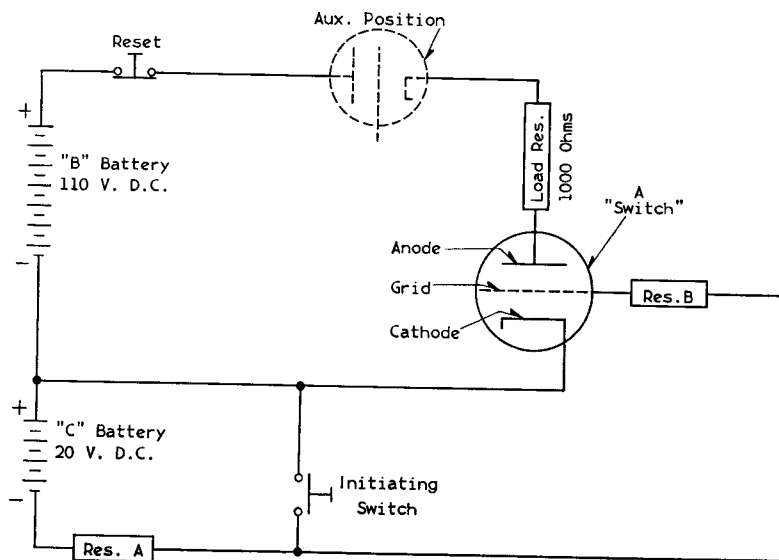
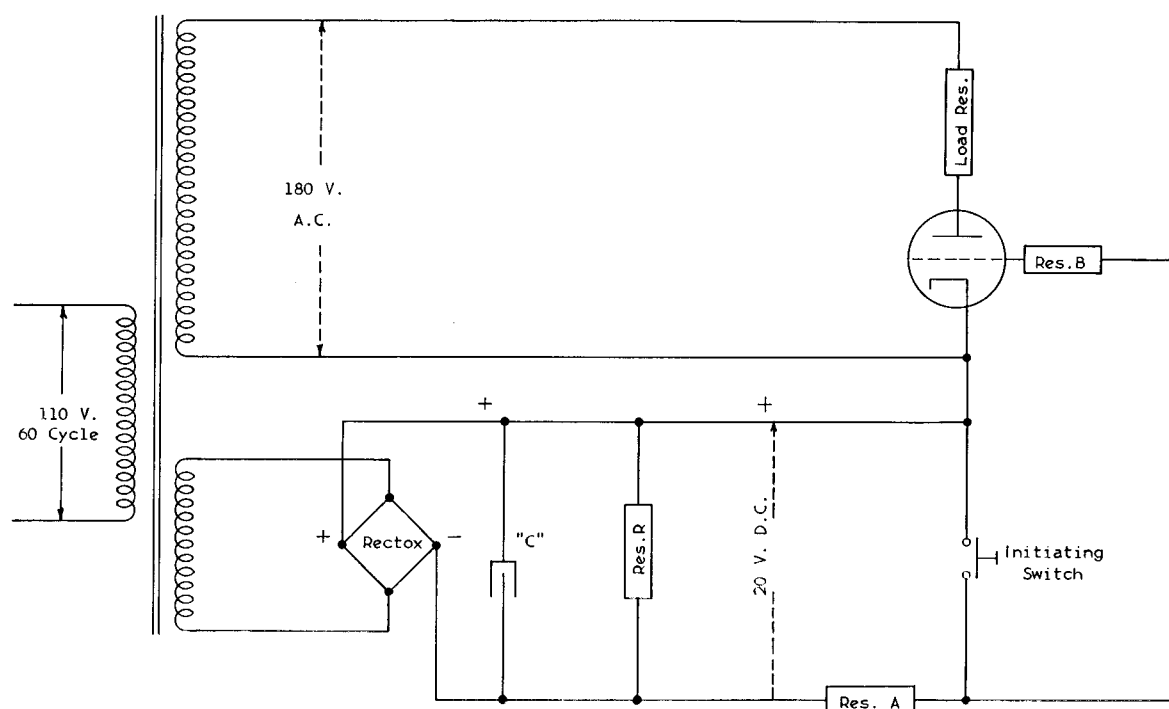
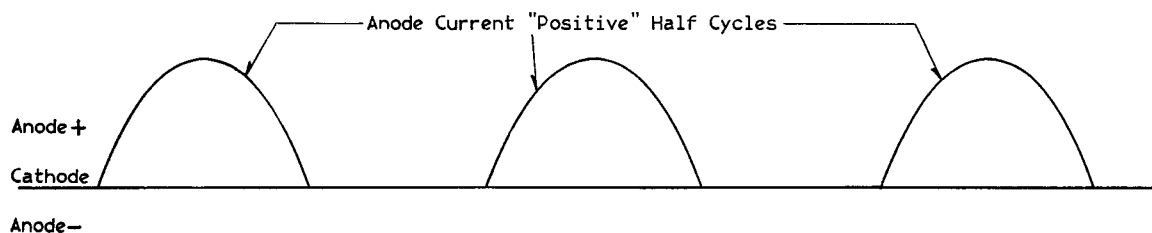
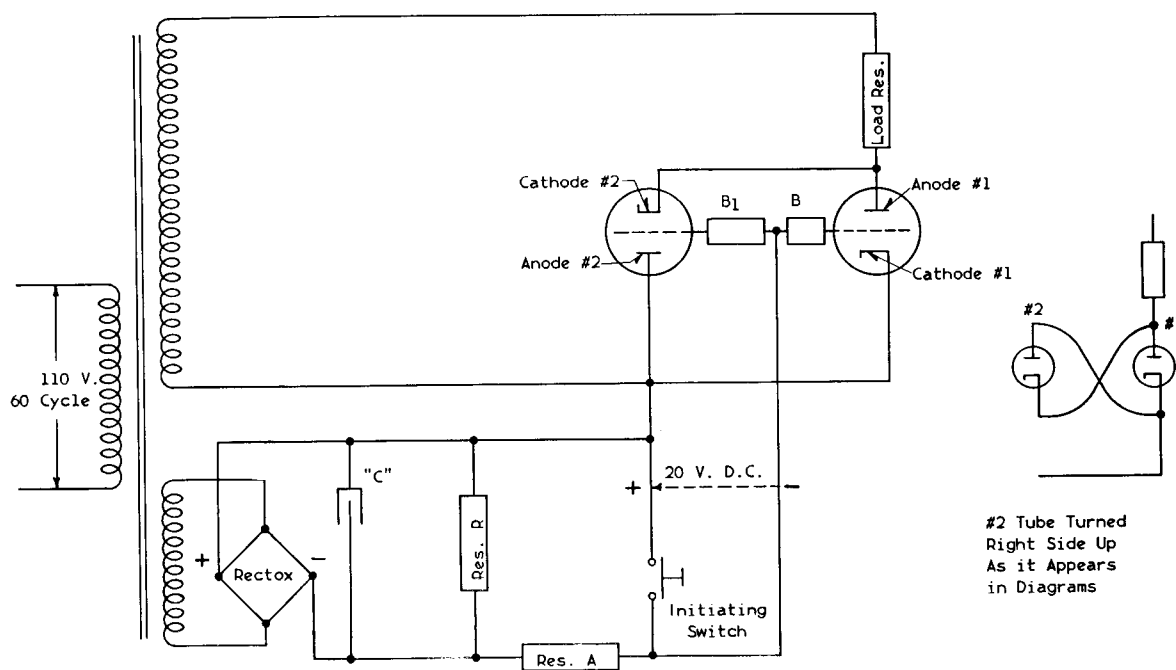

FIG. 14
FIG. 15
FIG. 16
FIG. 17
We shall now discuss a simple electronic tube circuit. We need (1) a source of supply, (2) a load, (3) a switch (our tube). These elements are shown properly connected in Fig. 14. This is the simplest circuit we have.
Let us close the initiating switch in Fig. 14. What happens? Well, let's see.
we open the initiating switch. A convenient way to do this is to replace Battery B, Fig. 14, by an alternating current power supply, the transformer winding in Fig. 15. We don't have to, but for convenience let us replace the battery C by a rectox rectifier for obtaining a D-C. voltage on the grid. Note that as far as the tube is concerned, the arrow marked "20 V D-C." could be a battery, and we could omit the rectox. The capacitor "C" is used to smooth out the full wave ripples from the rectifier.
relative to the cathode. You will remember that no current can **normally** be conducted from the cathode to the anode (in conventional sense of current flow.) Hence we pass a current which looks like Fig. 16, through the tube and **through the load**.
Note in Fig. 16 that the anode becomes alternately plus and minus relative to the cathode. The current is only passed through the tube when the anode is positive. Suppose we connect another thyatron in parallel with the one in Fig. 15, but we shall connect the **anode** of this second tube to the **cathode** of the original tube. Also, we shall connect the **cathode** of this second tube to the **anode** of the original tube. This connection of the tubes is shown in Fig. 17, and is commonly called a "back-to-back" connection, or an "inverse parallel" connection.
However, with only 20 volts negative on the grid, and with, say, 180 volts across the anode-cathode circuit of Fig. 17, it would be impossible to stop total current flow in this circuit by opening the initiating switch. This comes about from the fact that even though the 20 volts negative is applied to the grid of tube #1, and this tube **would** become de-ionized, the grid voltage of tube #2 is still 235 volts more or less positive than